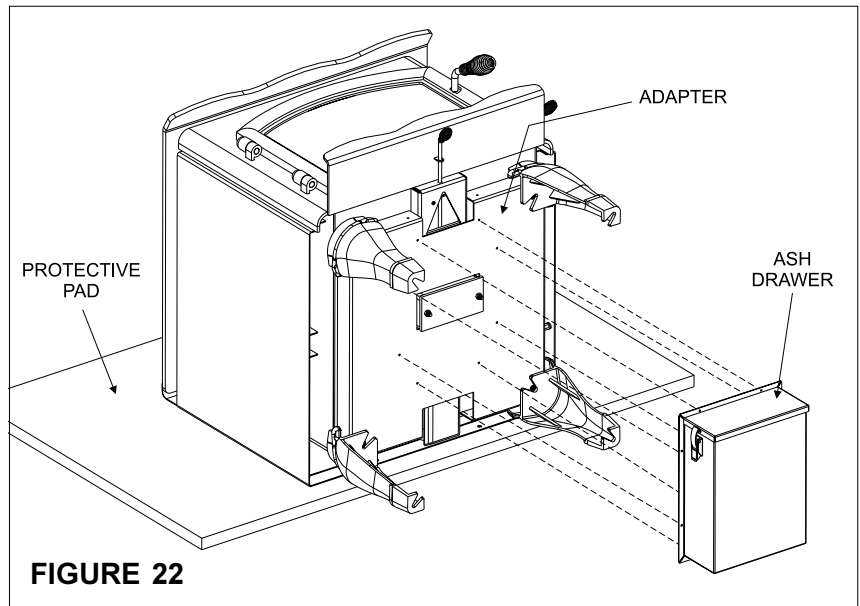

FIGURE 22
5. Line up holes in ash removal system with holes in adapter on bottom of stove (see Figure 22).